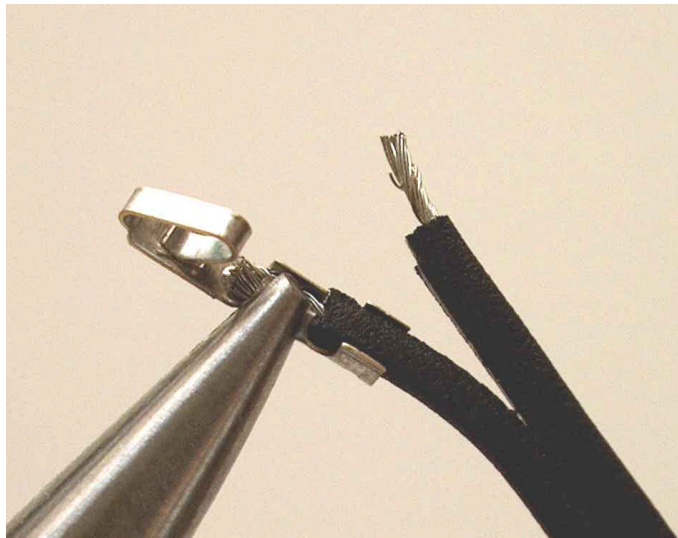

Figure 5: Crimp pin to stripped LEGO wire
8. With a pair of needle-nose pliers, crimp a connector pin to each conductor as shown in **Figure 5**. Note, the pin has two crimp areas: one for the conductor and one for the insulation. Be sure to crimp both areas, but the conductor area should be crimped especially tight.